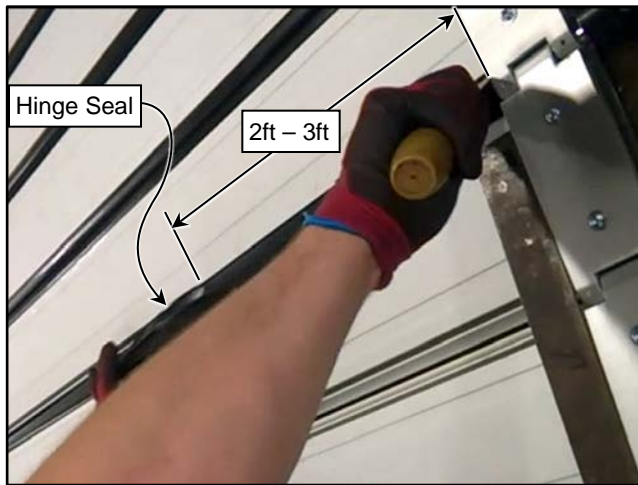

Figure 38
- Using the Convex-Rounded hand Roller tool (Supplied in Small Parts) firmly press the edges of the outer 2-3 feet of the seal into the channel as shown. (See Figure 38)